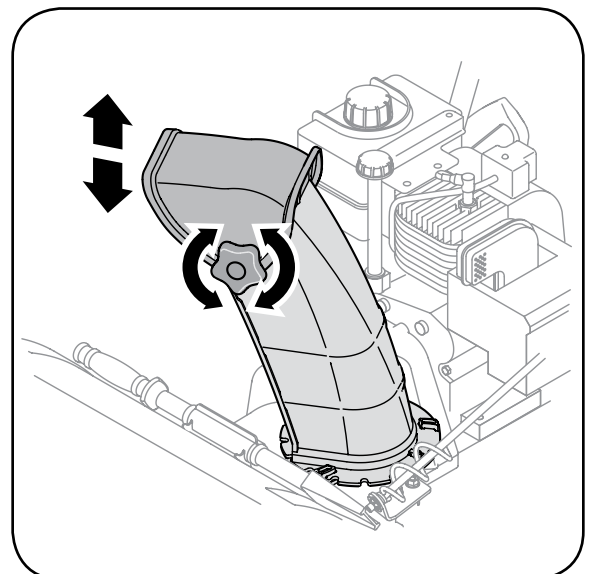

Figure 5-3
2. Pivot the chute upward or downward before retightening the wing knob, Figure 5-3.